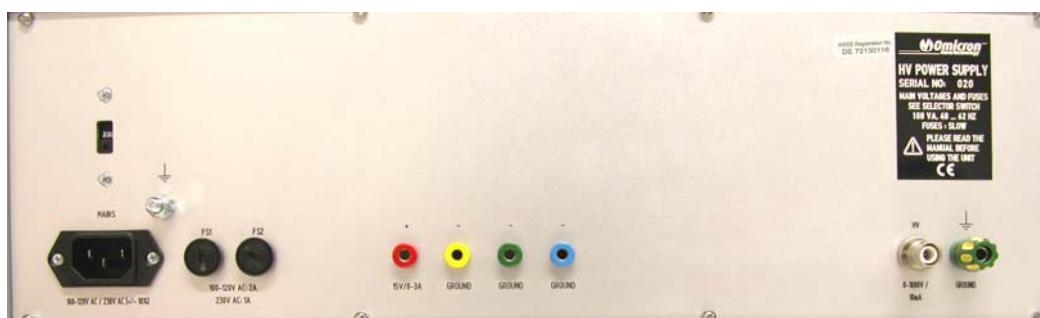

Figure 8. Power supply back panel.
- Connect one end of the grey cable to the 4-way Fisher connector of the TPT. Connect the other end of this cable to the HV-power supply, see also figure 8 on page 13.